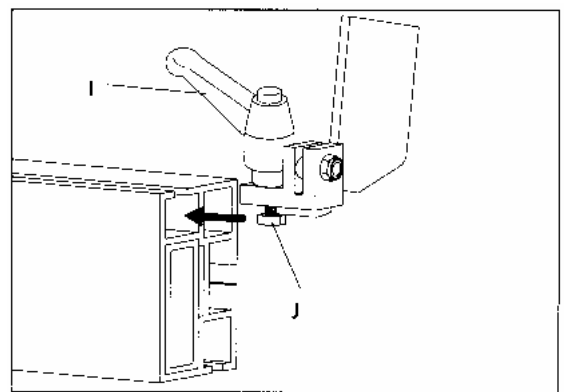

Fig. 3.39
5. Slide stock stop (K) Fig.3.39, to desired position on fence and tighten locking levers (I).